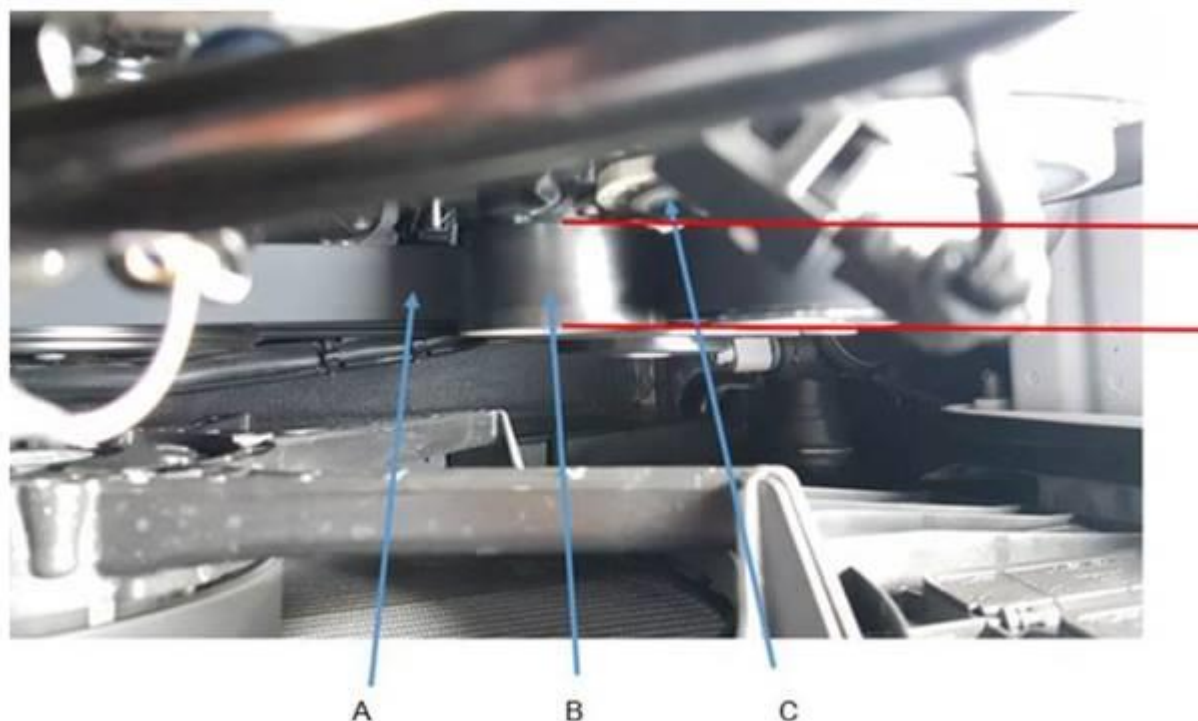

Figure 2. Check to ensure that the poly V-belt is not protruding in either direction.
2. The belt must not protrude forward or backward over the roller edge of tensioner (Figure 2, red marks).
Explanation of Figure 2 (view from above into the engine compartment):